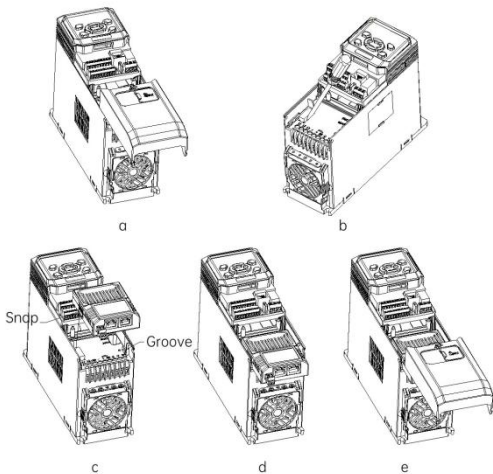

Fig. 5 EIP option installation steps
- the lower cover, as shown in Fig. 5-a.
- (2) Use a straight screwdriver to pry open the dust-proof cap, as shown in Fig. 5-b.
- (3) Install the EIP option: hold the expansion box (a bus card inside) upwards (indicators upwards), align the expansion box with the electrical bus interface in the installation position 2, and press down horizontally to buckle the spring snap of the expansion box into the groove at the lower part of the drive, as shown in Fig. 5-c and Fig. 5-d.
- (4) The bus option is successfully installed, as shown in Fig. 5-e.